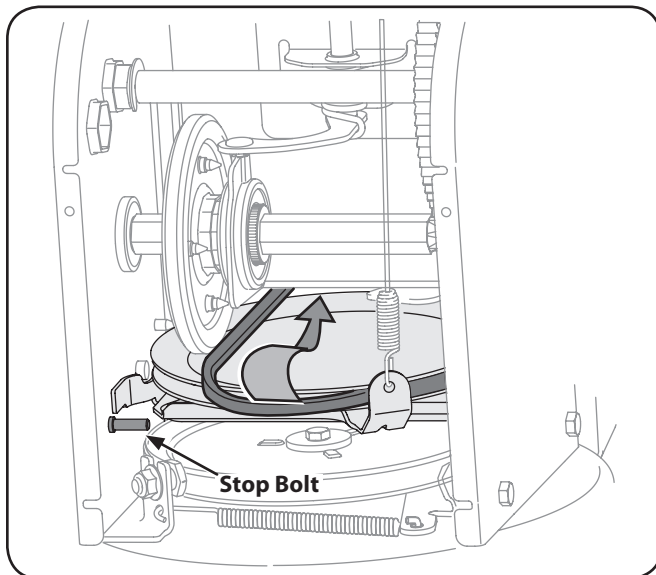

Figure 7-8
6. Back out the stop bolt to increase the clearance between the friction wheel disc and friction wheel. See Fig. 7-8.
7. Slip the drive belt off the pulley and between friction wheel and friction wheel disc. See Fig. 7-8.